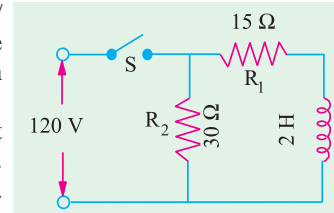

Fig. 8.13
**Example 8.19.** With reference to the circuit shown in Fig. 8.13, calculate :
**Solution.** (i) When switch  $S$  is closed (Fig. 8.13), the supply d.c. voltage of  $120 \text{ V}$  is applied